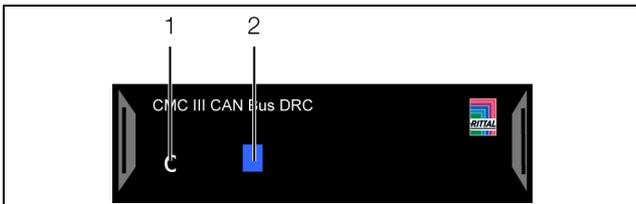
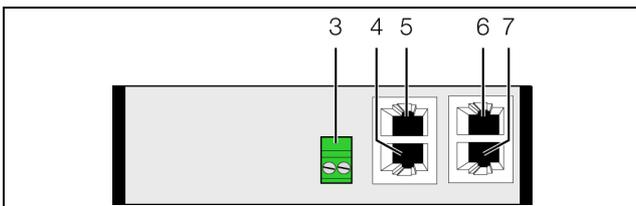

Fig. 11: Front of the CAN bus DRC
Fig. 12: Rear of the CAN bus DRC
A multi-LED for status display is integrated into the front of the CAN bus DRC (fig. 11, item 2). Additional LEDs are also located on the rear of the CAN bus connection (fig. 12, items 6 and 7) and on the connection for the components (fig. 12, items 4 and 5).